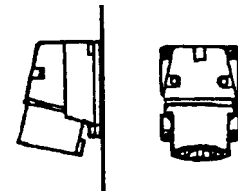

Figure 39 CEE male connector.
**132\*** 32 A, 380-415 V, 3p + PE (see Figure 39).
**133\*** 32 A, 380-415 V, 3p + N + PE (see Figure 39).